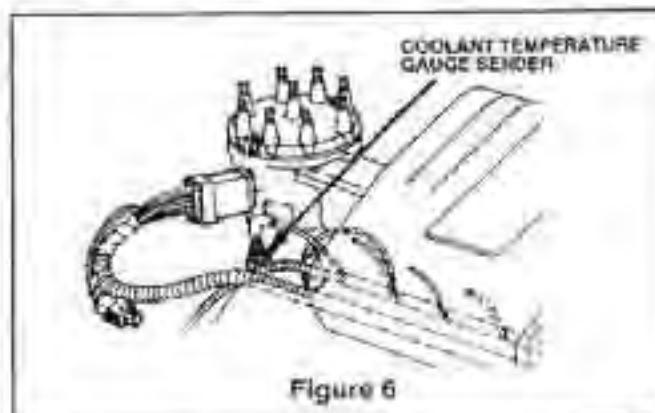

Figure 6
- 8.6 Connect the coolant temperature gauge sender R/W wire to the temperature sender located at the drivers side, front of the intake manifold. (See Figure 1, Connector #11, page 5 and Figure 6)